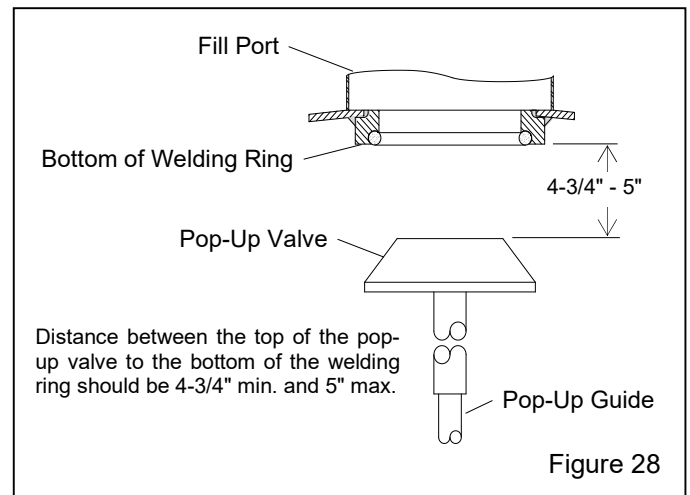

Figure 28
7.4.8 Refer to Figure 28 to check the pop-up height. If the pop-up sits lower than 5 inches, misalignment could occur when the pop-up comes up against the seal. If the pop-up sits too high, it will take longer for abrasive to flow through the opening when filling. If the pop-up height is outside the recommended range, adjust the height by replacing the guide with one that is longer or shorter.